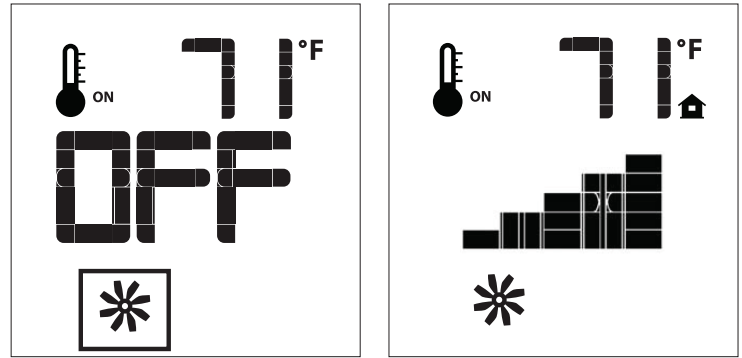

Figure 13: Fan Control
The Q2LI comes with a convection fan that can be controlled with the Transmitter. The fan speed can be adjusted through six (6) speeds. To control the fan press the MODE key (Figure 5) to index to the fan control icon (Figure 13). Use the UP/DOWN arrow keys to turn on, off, or adjust the fan speed (Figure 13). A single beep from the IFC will confirm the command has been received